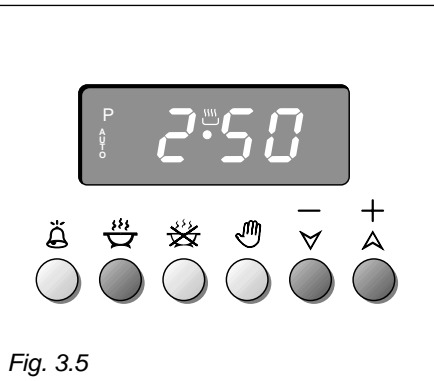

Fig. 3.5
- 1. Set the length of the cooking period by pushing the ☺ button and the ▲ (+) button to increase, or ▼ (-) to decrease if you have passed the desired time (fig. 3.5). The **AUTO** and the 🔊 symbol will illuminate.